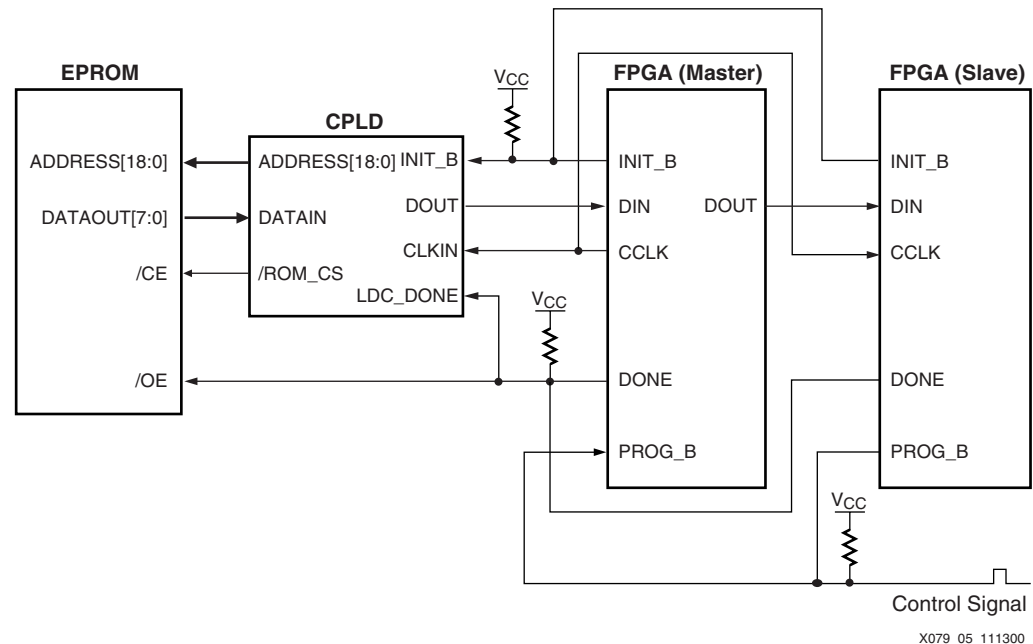

Figure 4-9: Configuring Virtex-II Pro Devices Using a CPLD and Parallel PROM
- XAPP079, *Configuring Xilinx FPGAs Using an XC9500 CPLD and Parallel PROM* (www.xilinx.com/apps/xappsumm.htm#xapp079) describes an architecture that configures a chain of Virtex-II Pro devices using Master-Serial mode. See Figure 4-9 for an example of FPGA configuration using a CPLD and a parallel PROM.